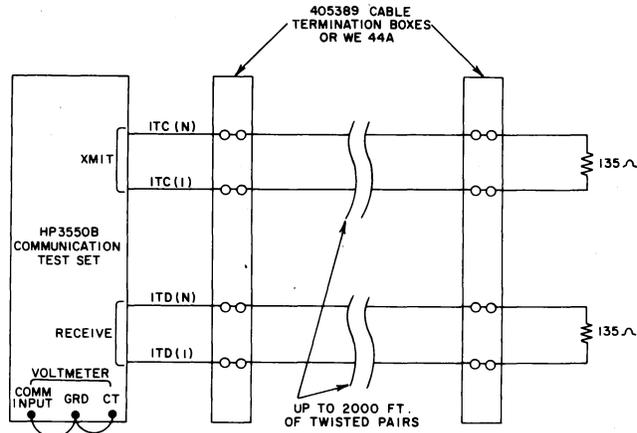

Fig. 10—Cross-Talk Measurements
7.08 The Cross-talk Tests require a HP-3550B Communication Test Set or equivalent and two 135 ohm resistors. Connect the test set and resistors as shown in Fig. 10. Perform the tests in Table D.